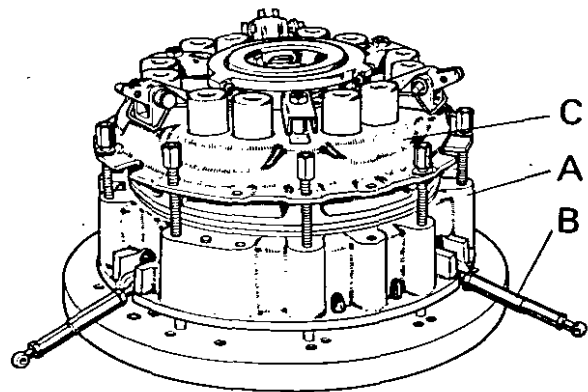

Figure 37. DISMANTLING CLUTCH
6. Remove nuts from the nine long bolts. Unscrew nuts evenly, and by diametrical selection, until the thrust springs are fully expanded, then dismantle clutch from baseplate. (Fig. 37.)